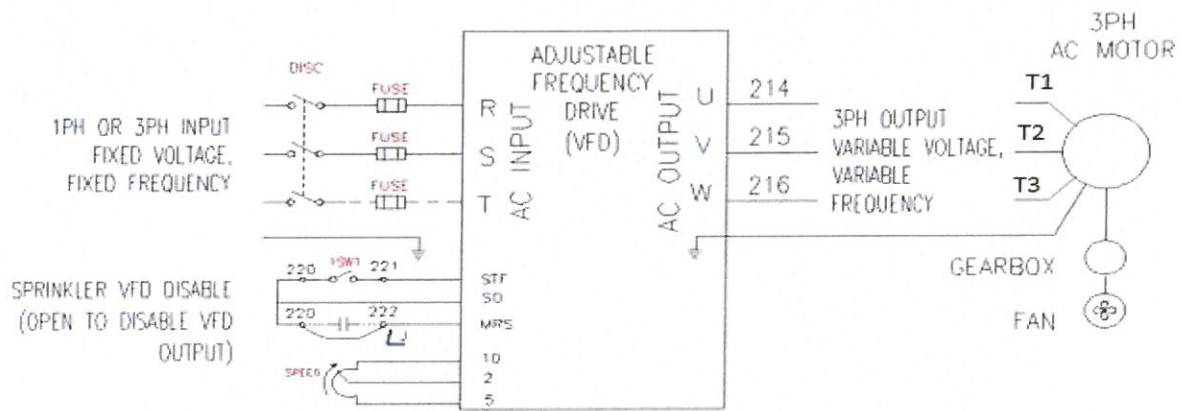

Figure 3 – Variable Frequency Drive (VFD) Input / Output Connections
-  Regardless of whether the input voltage is 1 ϕ or 3 ϕ , the power to the fan motor will always be 3 ϕ . See **Figure 3** below.